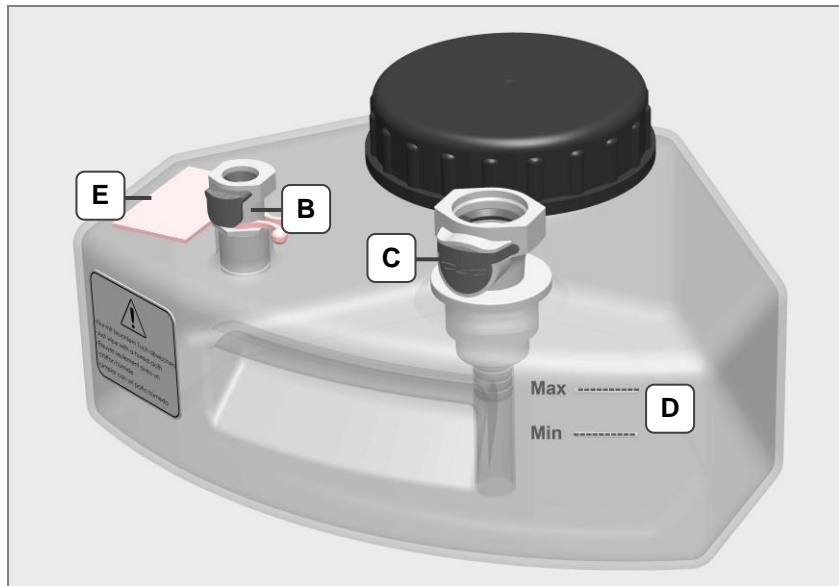

Fig. 4.4.3 Media tanks
Removable labels are attached to the media tanks for individual assignment and recognition of the filled media (*Fig. 4.4.3.E*).
Press the respective unlocking button on the shut-off valve of the media tank (*Fig. 4.4.3.B/C*) and pull the tube connection upwards out of the shut-off valve at the same time.
4. Open the screw cap and fill the media tank with the suitable cleaning medium up to a filling level between the *Min* – *Max* markings (*Fig. 4.4.3.D*).
The filling level of the operating materials must always be between the markings (*Fig. 4.4.3.D*) to guarantee proper operation of the cleaning unit and an optimal cleaning result.